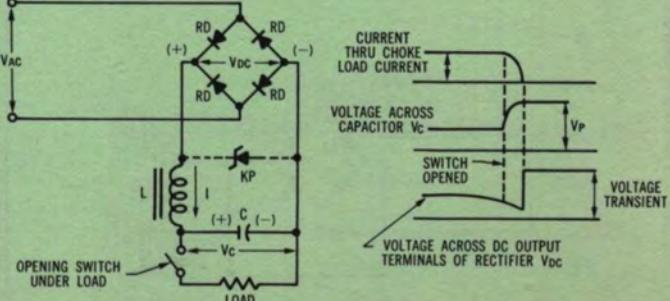

Fig. 2—Inductive Circuit Voltage Transient Sources
The transients resulting from any of the four circuits of Figure 2 can be some of the most destructive. Peak transient voltages up to 10 times the peak supply voltage have been
observed for Figures 2(A) and 2(B). In Figure 2(C), the peak transient voltage can equal:
In the circuits of Figure 2(A), (B), or (C) either a non-polarized or polarized Klip-Sel will usually provide adequate protection. However, for Figure 2(D), the only effective location for the Klip-Sel is across the rectifier dc terminals. Usually a polarized Klip-Sel is selected for this use (however, if a non-polarized Klip-Sel is the only one available, it will also provide protection in this location).